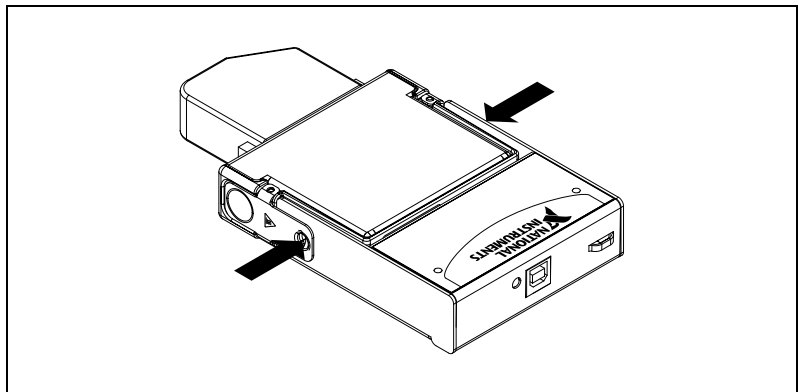

Figure 3. Locking Module into Place
5. Press firmly on the connector side of the NI 9211 module until the latches lock the module into place, as shown in Figure 3.